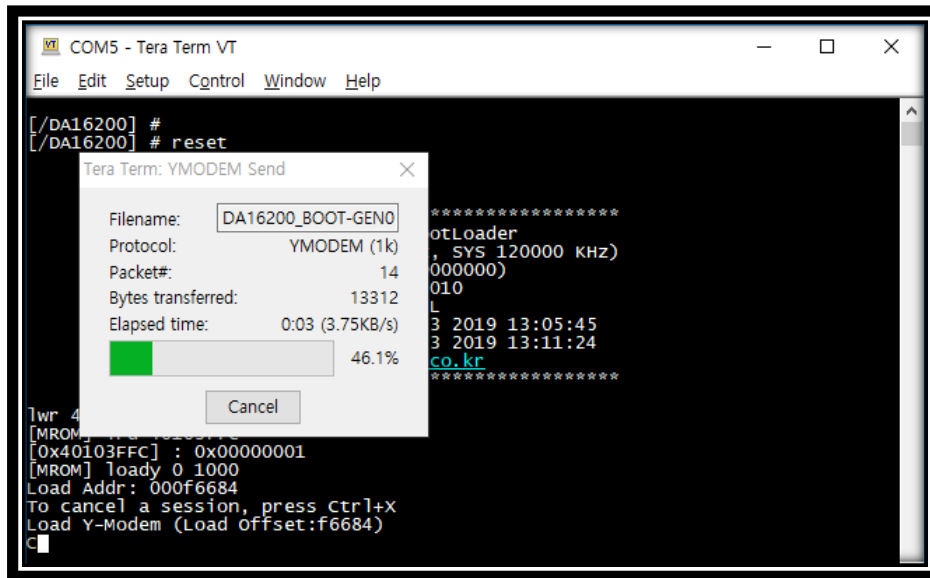

Figure 6: Programming FBOOT image
3. After opening the macro file, the FBOOT firmware image is programmed as shown in Figure 6.